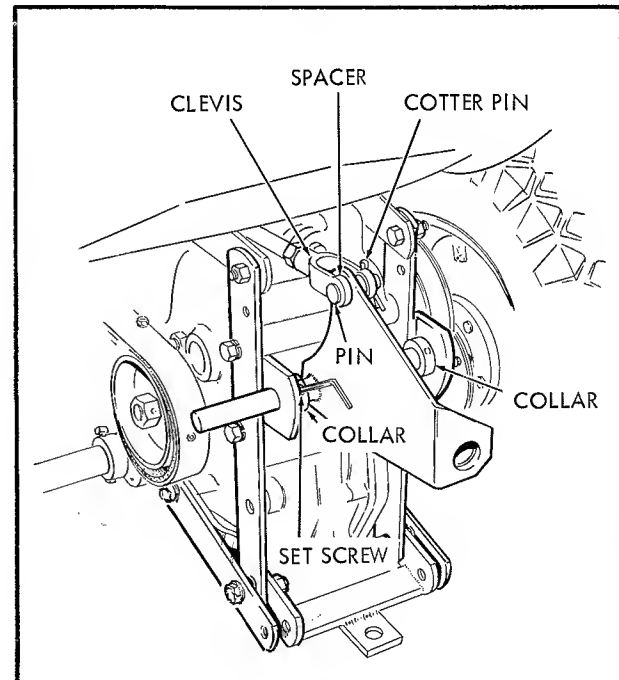

Fig. 3
3. Insert right end of lift assembly into hole in right hitch member and position lift assembly so that collar is flush against right hitch member. Position collar on left side of lift assembly so it is flush against left hitch member; tighten socket hd set screw with allen-wrench. See figure 3.
4. Connect lift assembly to clevis by means of pin, spacer, and cotter pin. Keep spacer on left side of lift assembly. See figure 3.